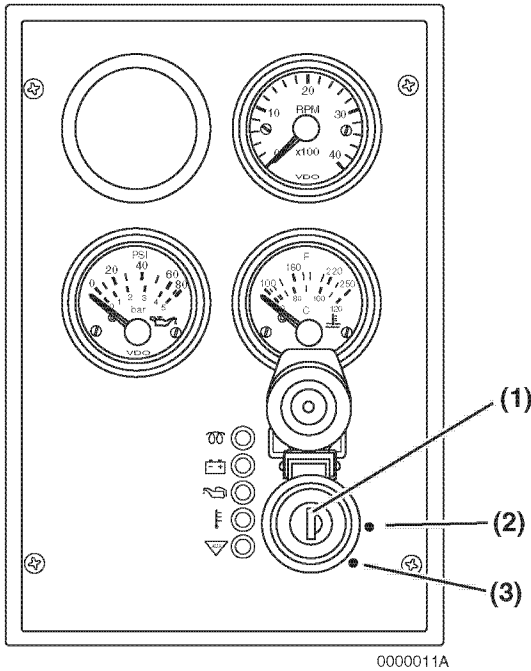
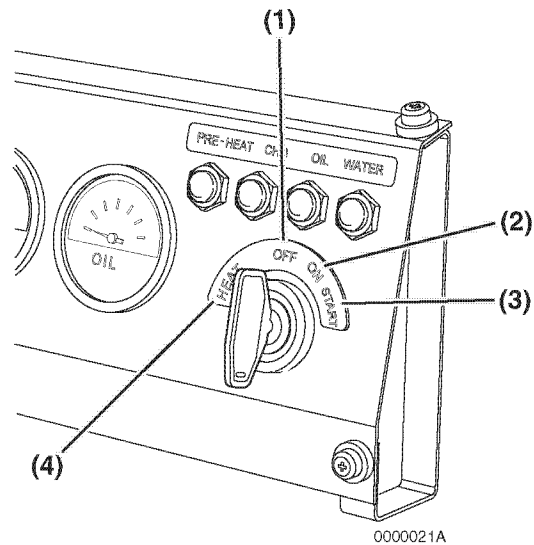

Figure 9
Figure 10
The key switch for the operator's console illustrated in **Figure 9** has three positions - OFF, ON and START.
OFF (key straight up and down) (**Figure 9, (1)**) and (**Figure 10, (1)**) - When you turn the key to this position the engine shuts down. Electric current to the gauges and indicators is shut off. You can insert and remove the key in this position.
ON (**Figure 9, (2)**) and (**Figure 10, (2)**) - This is the position the key will be in when the engine is running. When the engine is not running, use this position to energize the gauges, indicators, electric fuel pump and auxiliary devices.
START (**Figure 9, (3)**) and (**Figure 10, (3)**) - Turn the key to this position to start the engine. As soon as the engine starts, release the key and it will automatically return to the ON position. Some key switches may be equipped with a feature that prevents you from turning the key to the START position while the engine is running. When operating a key switch with this feature, you cannot turn the key to the START position without first returning the key to the OFF position.
The key switch for the operator's console illustrated in **Figure 10** has four positions - OFF, ON, START, and HEAT.
HEAT (Figure 10, (4)) - You must turn the key to the HEAT position to activate the inlet air heater. The indicator will flash for several seconds when you turn the key to HEAT. You can turn the key to START when the indicator goes out.